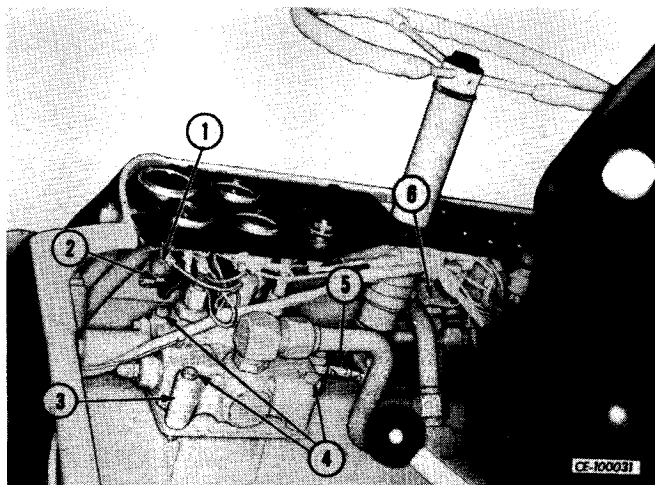

Figure 11-10
STEERING CONTROL VALVE - The steering control valve (3, Fig. 11-10) is located under
DOZER CONTROL VALVE - The dozer control valve (6, Fig. 11-10) is located under the dash panel. Disconnect and tag all hydraulic lines. Plug ends of all open hydraulic lines. Disconnect linkage between the dozer control lever and control valve. Remove mounting cap screws.
STEERING CONTROL VALVE - Position steering control valve (3, Fig. 11-10) on mounting bracket and install cap screws and nuts (4).
DOZER CONTROL VALVE - Position dozer control valve (6, Fig. 11-10) on mounting bracket; install and tighten cap screw. Connect all hydraulic lines to control valve. Connect linkage between the control valve and control lever. Check and repair hydraulic fluid level in the reservoir.
The diverter valve (1, Fig. 11-10) is located under the dash panel. It is recommended that the steering control valve (3) be removed to aid in diverter valve removal. Disconnect and tag all hydraulic lines. Plug all open hydraulic lines. Remove cap screws (2) and control valve (1).